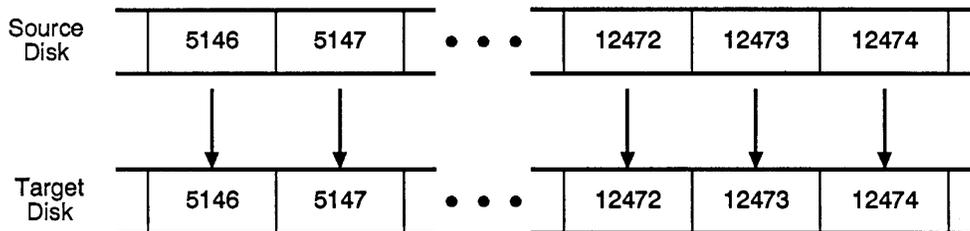

FIGURE 2-1. Ideal Physical Copy
**Physical Saves:** Unlike a logical save, which copies files and directories individually, a physical save copies the entire partition, record by record, as illustrated in Figure 2-1. It does not involve the DSKRAT on the disk to which the data are being copied (the *target* partition), because all information on that partition is overwritten with the data on the partition from which the data are being copied (the *source* partition). However, the BADSPT file must be preserved on the target partition, because the lists of badspots on the source and target partitions will differ.